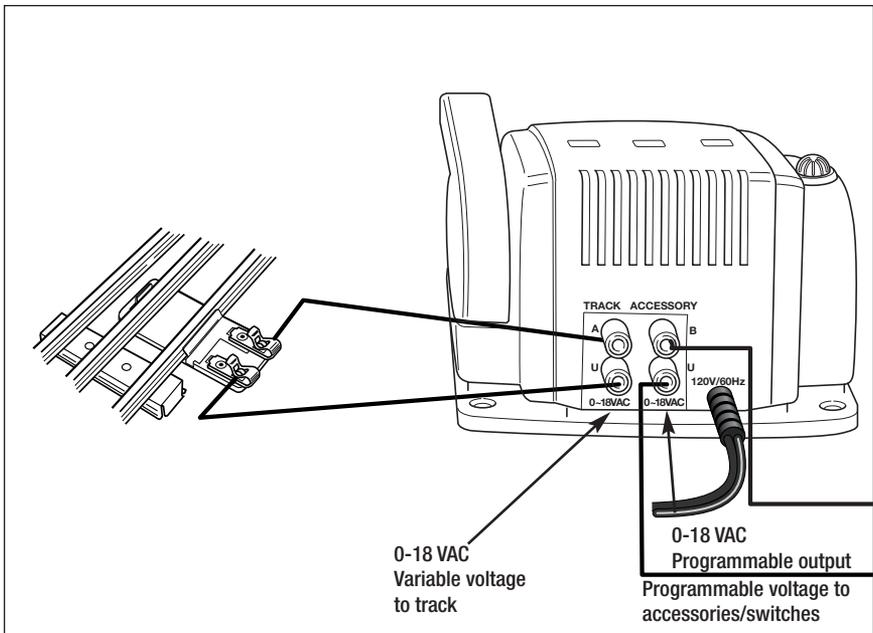

Figure 2. Controller connections
2. Attach one wire to the Lockon spring clip terminal labeled “1” and connect it to the power terminal labeled “A”. All Controller connections are illustrated in Figure 2.